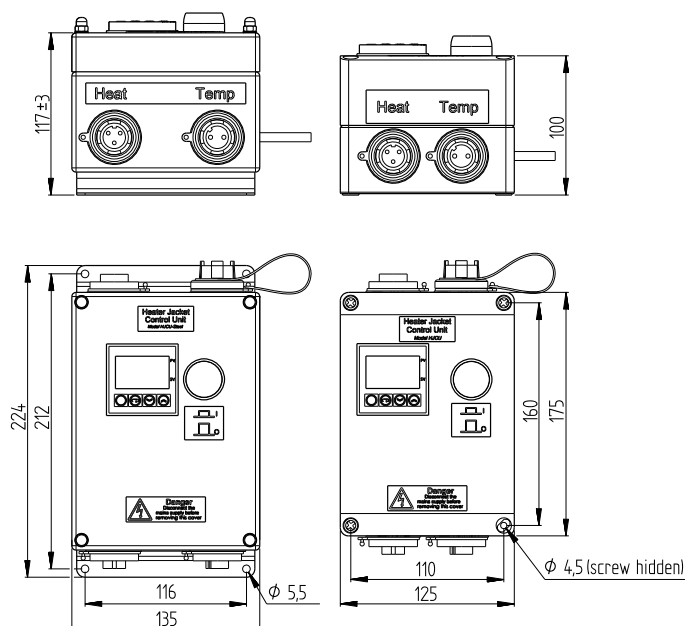

Figure 2
5. Heater Jacket Control Unit Steel made of steel 316L, Size In brackets includes mounting angles. See figure 2.